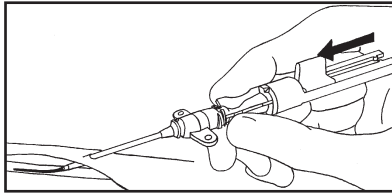

Figure 3
7. Stabilize position of introducer needle and carefully advance spring-wire guide into vessel using spring-wire guide handle (refer to Figure 3). When the spring-wire guide is fully retracted, the tip of the spring-wire guide is located at the needle tip.